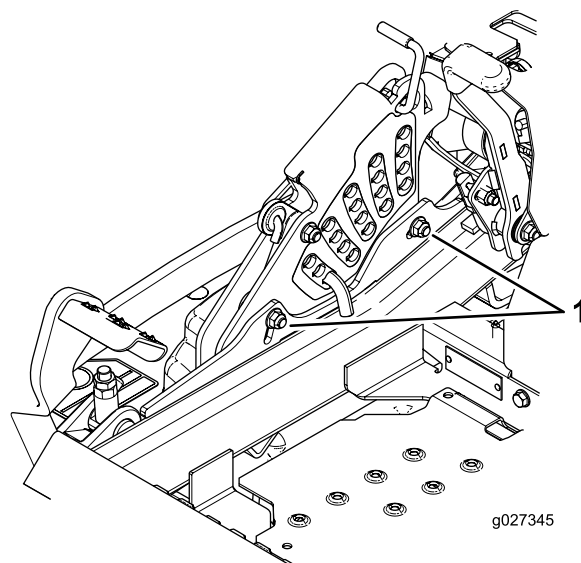

Figure 120
11. To adjust the single-point system, loosen the 2 bolts at the bottom of the height-of-cut plate (Figure 120).
13. Tighten the 2 bolts at the bottom of the height-of-cut plate (Figure 120).